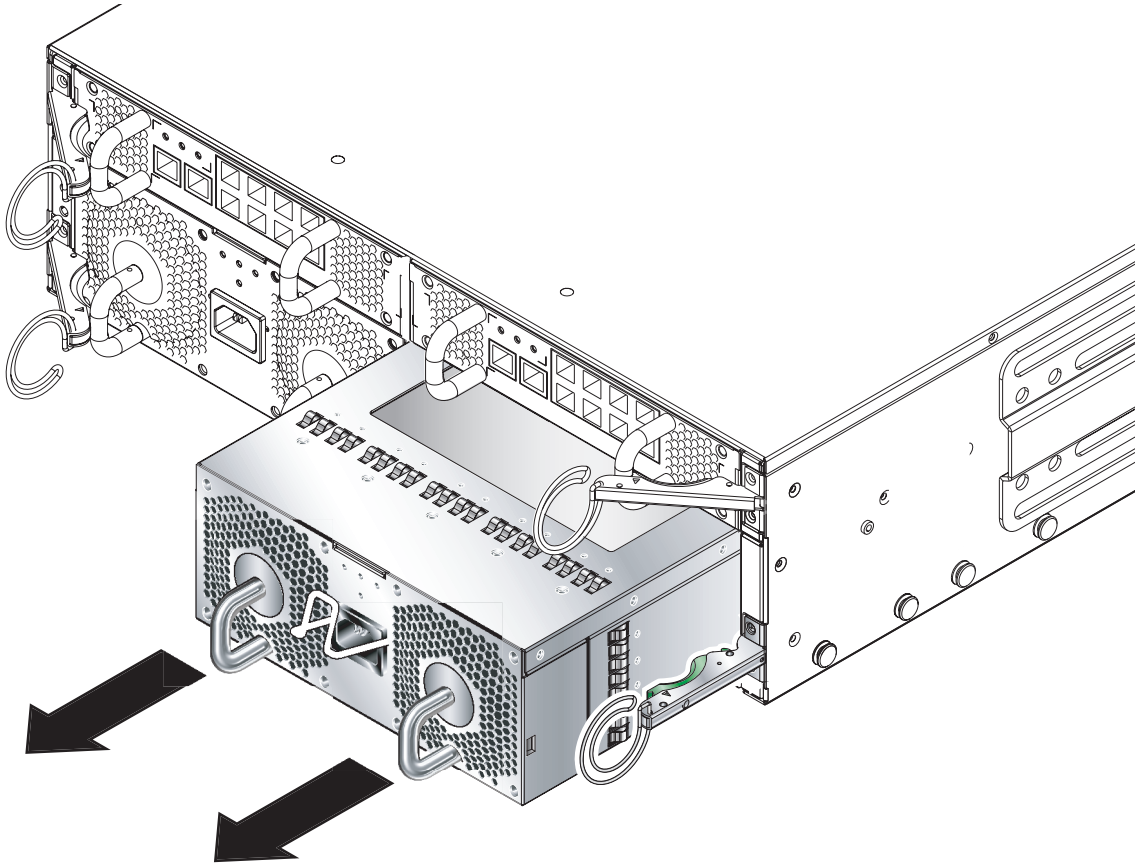

FIGURE 12-15 Removing the PSU from the system chassis
5. Remove the PSU from the system chassis by pulling on the vertical handles attached to the rear of the PSU (FIGURE 12-15).